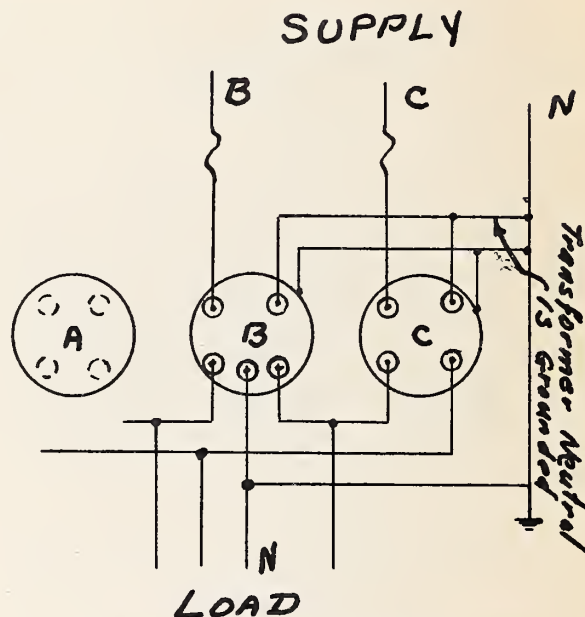

FIGURE 4. CONSUMER'S BANK AFTER SUBSTATION TRANSFORMER FAILED.
2. Disconnect and remove from service transformer A of the three transformers. The final connections are shown in Figure 4. Connect the transformer primary neutral to the system neutral.